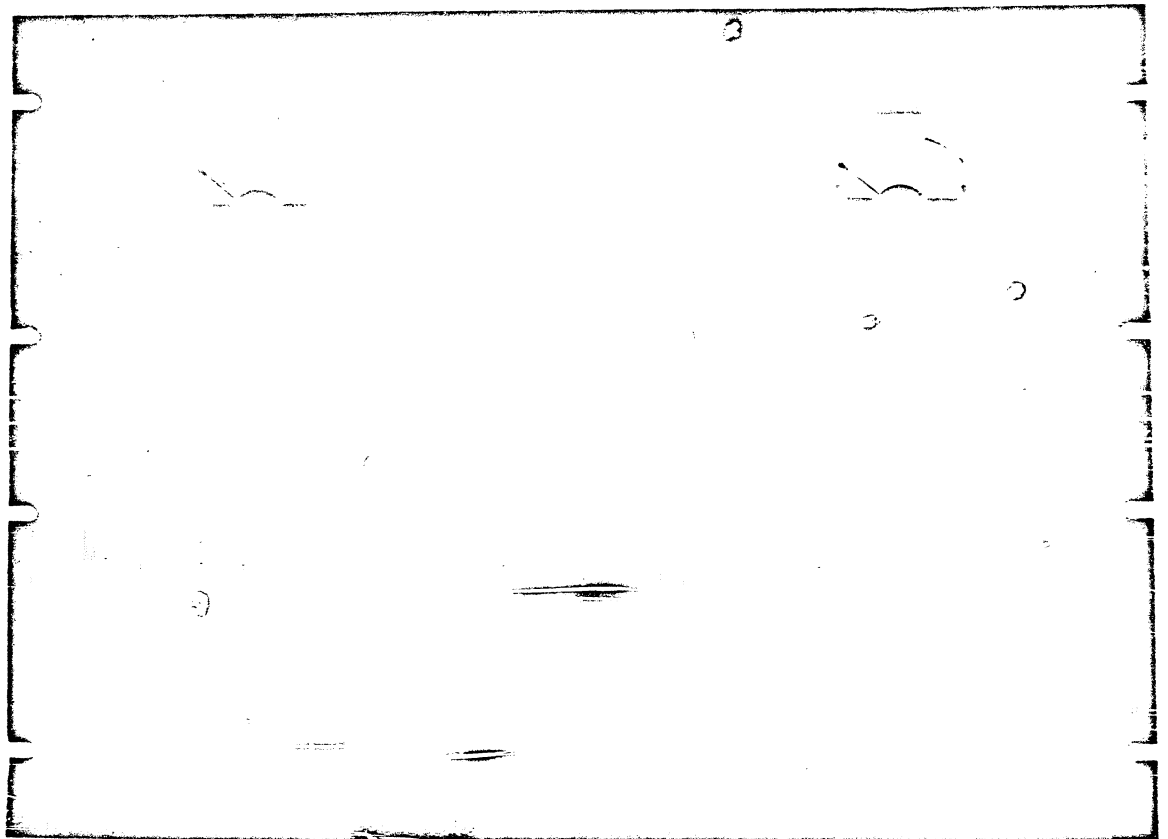

Figure 4-1. Operating Controls
b. CONTROL FUNCTIONS. - The following operating controls are located on the front panel. Refer to Figure 4-1.
(1) INPUT LEVEL. - A step by step attenuator located in the grid circuit of V101. It is adjustable in 30 steps of 1 db each.
(2) METER SELECTOR. - Operation of the meter selector knob connects M101 in any one of the following circuits: (A) limiter cathode, (B) input amplifier cathode, (C) interstage amplifier cathode, (D) push-pull output amplifier cathode, (E) push-pull amplifier cathode, (F) plate voltage.
(3) VOLUME UNITS. - A 4-24 VU attenuator, R137, serves as a range multiplier for M102.
(4) OUTPUT LEVEL. - A step by step T network attenuator, R136, is located in the output circuit of the push-pull class A amplifier.
The steps outlined in this section may be used as a guide to the routine operation of the equipment, subsequent to completion of the initial adjustments. It is suggested that the operator refer to the Theory of Operation section of this book for a more detailed explanation of the limiter amplifier circuits. The location of the meters and operating controls is shown in Figure 4-1.